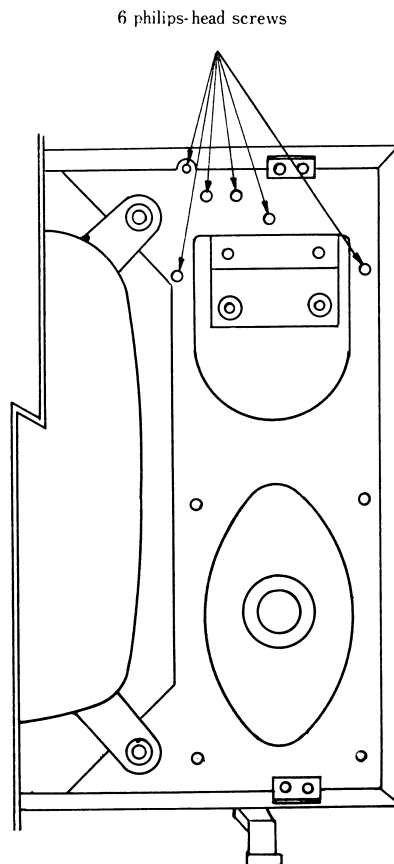

Fig. 1
- (1) Remove the channel selector knob, the fine tuning knob, two top small knobs and front panel.
- (2) Remove the back cover by loosening the 6 philips-head screws.
- (3) Remove the picture tube socket, the speaker plug, the CRT grounding wire, the deflection yoke plug, the H.V. Lead and power transformer plug.
- (4) Loosening the 6 philips-head screws on the cabinet. (Refer to Fig. 1)